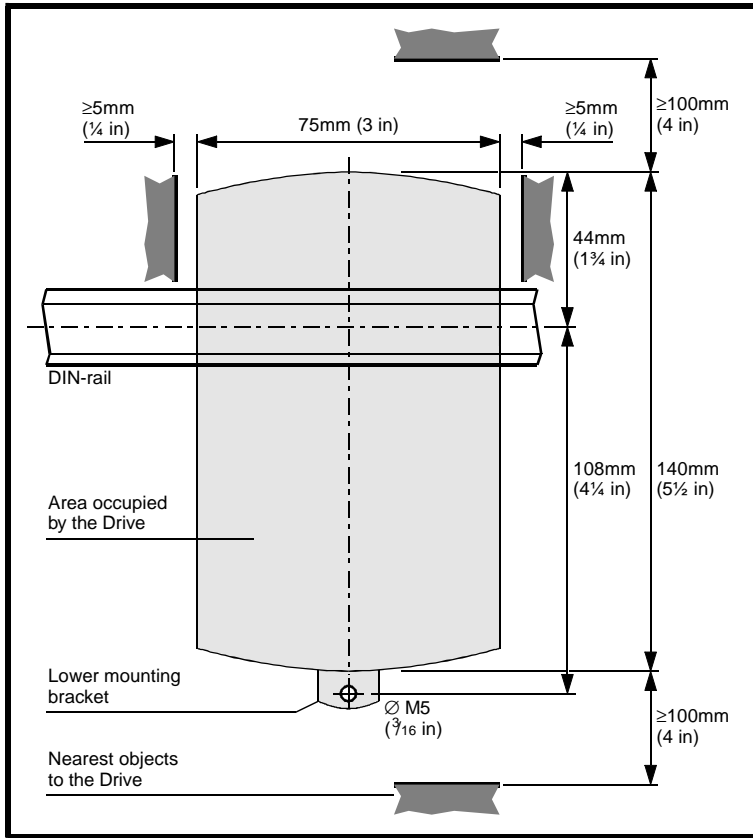

Fig. 4.7 Preparing the panel/wall or surface for DIN rail mounting
5. Drill and tap a 5mm (3/16") mounting hole 108mm (4 1/4") vertically below the centre of the 35mm (1 3/8") DIN rail on the back panel of the enclosure where the drive is to be installed. (See Fig. 4.7 above.)